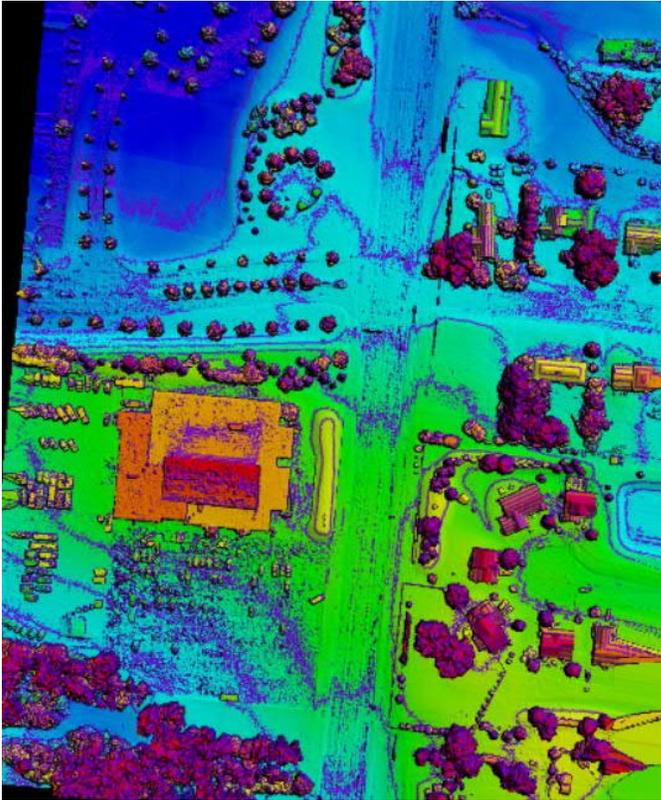
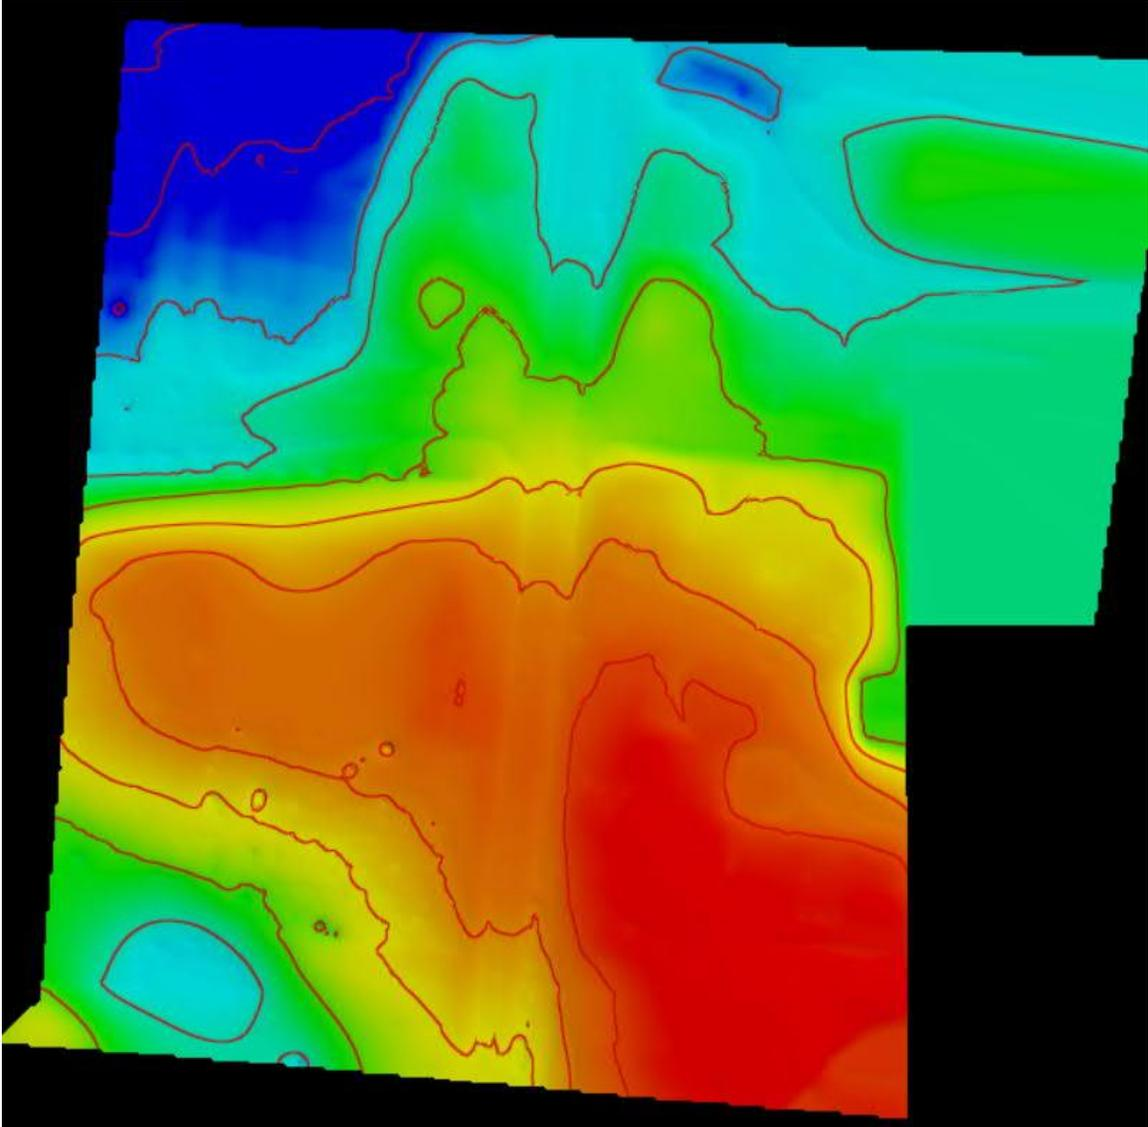

Figure 14 Contours generated from DSM
Figure 15 Contours generated from DTM
- iv. Contours generated from DSM is aesthetically not pleasing as there are too much information in it, see Figure 14, while contours generated from DTM is smooth and the file size is much smaller, see Figure 15.